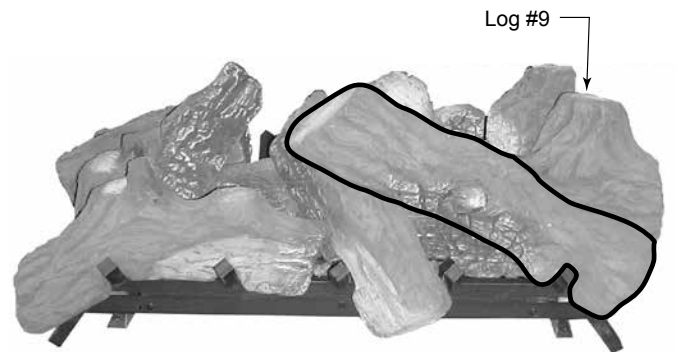

Figure 5.9 - Place Log #9
9. Place log #9 on farthest right grate tine by aligning 'V' notch in bottom of log with grate tine. Place rectangular notch in bottom of log onto rectangular protrusion on log #8. *Figure 5.9*